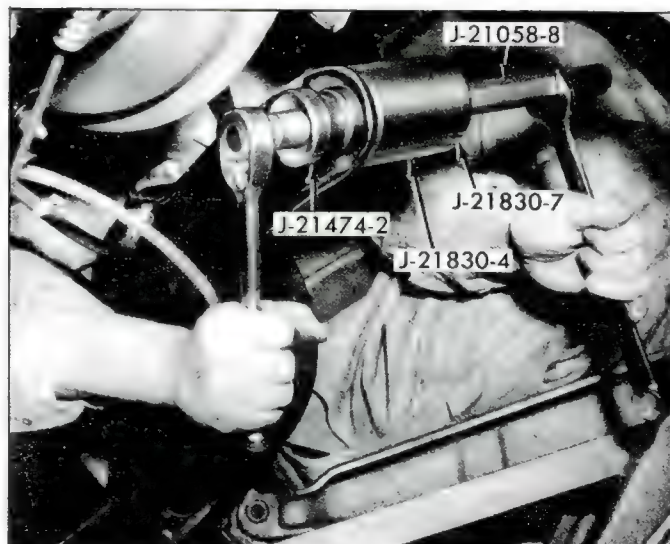

Fig. 80—Removing Torque Control Arm Bushing
3. Remove the bracket from torque arm and install bushing removal tools as shown in Figure 80.